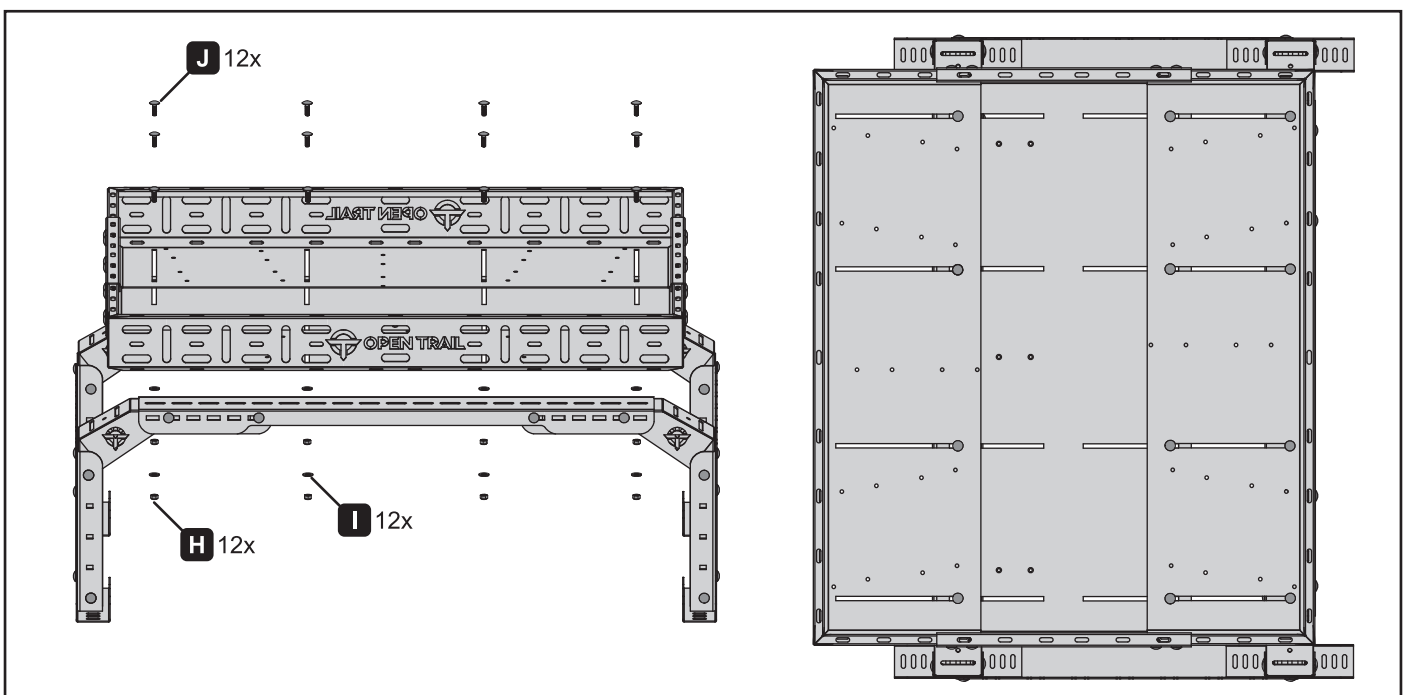

Figure 10.
10. Install the carriage bolts (J) through the slots in the basket and the slots in the frame assembly. Attach washers (I) and lock nuts (H) (figure 10). Torque the lock nuts (H) to 18 ft/lb.